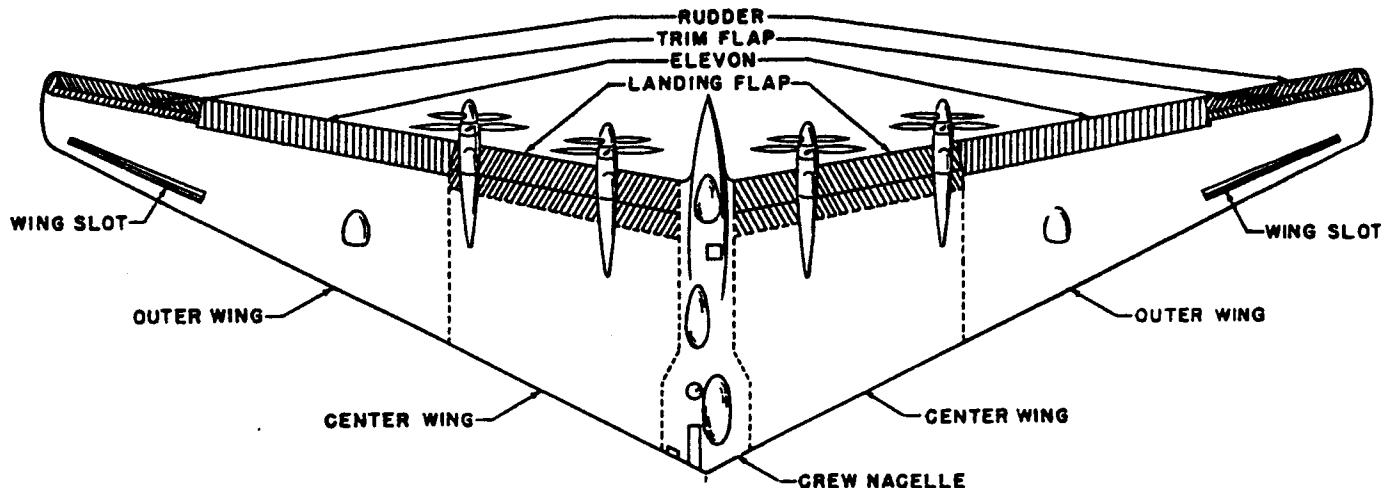
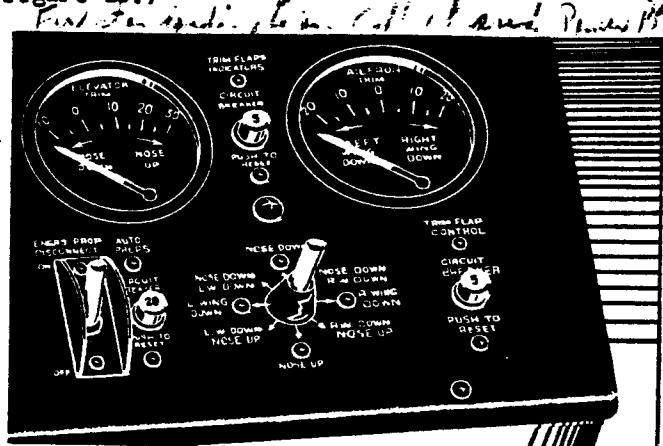

Figure 3. Airplane Plan View
Figure 5. Trim Flap Controls
2. FLIGHT CONTROLS.- Conventional control wheels and columns are provided for the pilot and copilot. The rudder pedals are somewhat unconventional in operation inasmuch as they operate independently of one another. Due to the elevons and rudders being power operated, only friction loads are placed on the control systems, therefore, mechanical loads have been imposed on the control systems to lend "feel" to elevon and rudder operation. A control force bellows is connected to the pilot's control column, and spring assemblies are attached to the control wheel mechanisms and to the copilot's rudder pedals to add "feel" to these controls. The spring assemblies, attached to the rudder pedals, are used to preload the pedals and are also connected to the rudder trim control for rudder trim. See figure 3. for identification of the control surfaces.
3. ELEVONS. (See figure 3.)- These surfaces are normally actuated by hydraulic pressure, but, in case of a hydraulic failure they may be operated electrically. The elevons function as both elevators and ailerons. Fore
8. TRIM FLAPS. (See figure 3.)- The trim flaps are used for either aileron or elevator trim. The trim flaps are electrically actuated and controlled by an eight-position switch located on the pedestal between the pilot and copilot. (See figure 5.) Two trim flap position indicators are installed on the pedestal immediately forward of the control switch. One indicator shows the amount of aileron
9. LANDING FLAPS. (See figure 3.)- Electrically operated landing flaps are used on this airplane. A control switch is located on the pedestal within reach of either the pilot or copilot. The switch has "UP," "OFF," and "DOWN" positions. By moving the switch to the "OFF" position the landing flaps may be held in any desired position. The landing flaps are used for landing only. They lower the stall speed only slightly, but they will appreciable steepen the glide path of the airplane and decrease the angle of attack, thus allowing improved visibility. The landing flaps may be lowered to 50°, however, they should not be lowered over 30° on this airplane.
11. WING SLOT DOORS. (See figure 3.)- An upper and lower door control the flow of air through the slot in each outer wing. The doors are electrically controlled and hydraulically actuated. A three-position switch, located on the control pedestal, allows the pilot manual or automatic control of the doors. (See 17, figure 7). Automatic control of the doors is accomplished through the use of pressure switches which measure the air pressures on the upper and lower wing surfaces, opening or closing the doors at pre-determined lift coefficients. Since it is desirable to have the slot doors open during take-off and landing, a landing gear operated switch has been installed which opens the doors when the landing gear is down. Indicator lights for the "DOORS OPEN" position are located on the instrument panel. In case of an electrical or hydraulic failure, the doors will assume the full open position. If one set of doors should be held open or closed due to a mechanical failure, the pilot may place the doors in the other wing in the same position by placing the control switch in the "OPEN" or "CLOSED" position as necessary.